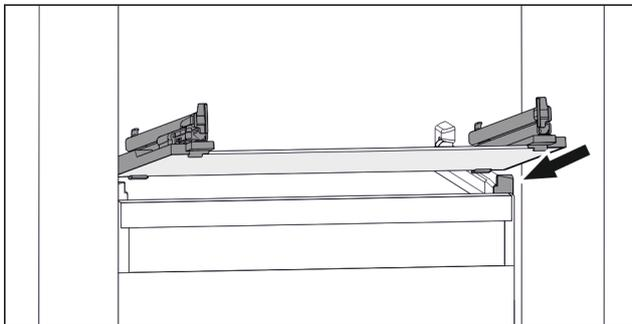

Fig. 28 Example illustration of glass shelf
- ▶ Position glass shelf at an angle behind the stoppers. (see Fig. 28)